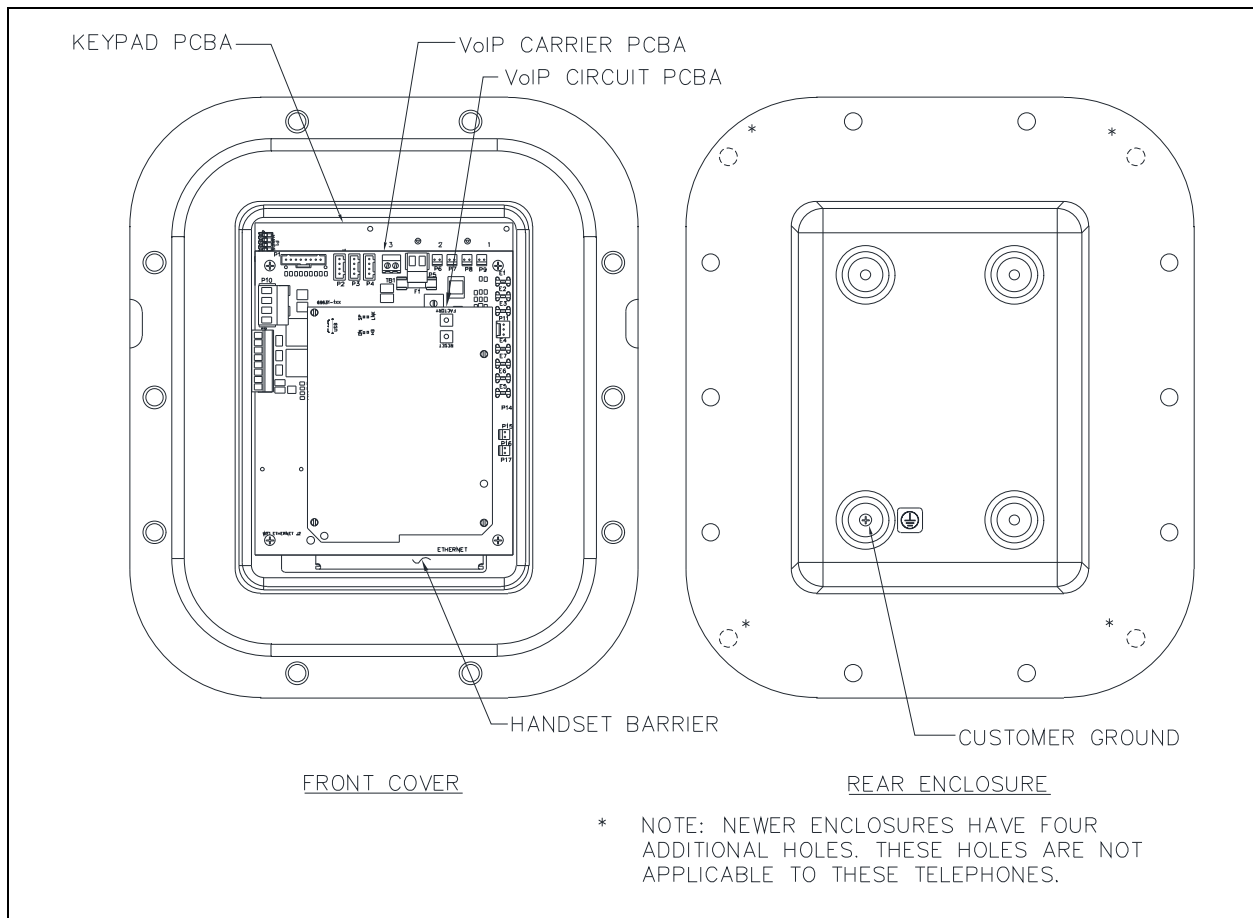

Figure 4. Model 352-70x Division 1 VoIP Telephone—Internal View
All standard components mount to the rear of the front cover (see Figure 4).
2. Secure the ground conductor to the ground terminal, located in the upper right corner in the rear of the enclosure (see Figure 4 on Page 4).